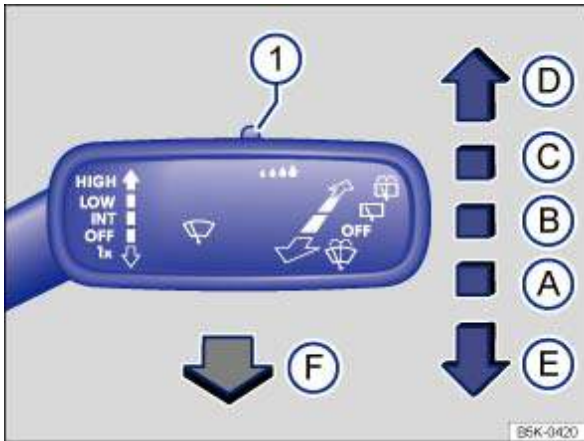

Fig. 76 Operating the front windscreen wipers
- Briefly press down the windscreen wiper lever → Fig. 76 .